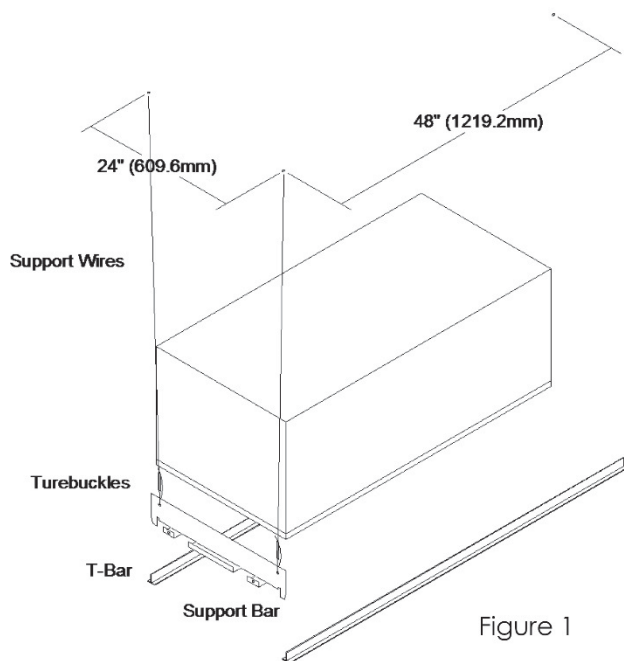

Figure 1
1. Attach four galvanized steel support wires to the true ceiling at the location shown in Fig. 1. Twist each wire at least four times to provide safe support for the air cleaner. The free wire end should extend six inches or more below the bottom of the T-bars.
4. Hook the turnbuckles to the hanger brackets and then secure the support wires to the eyes of the turnbuckles. Twist the wire at least four times. See Fig. 1.